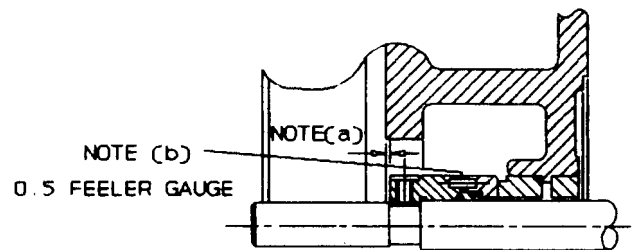

Figure 2
4. Lightly lubricate Rotary Seal Face (41) and Seal Seat (40) with a compatible good quality lubricant.
5. Apply a medium strength thread locking adhesive to the Seal Grub Screws (43) and position in Seal Sleeve (42).
6. Push Seal sub-assembly (41,42) onto Motor Shaft until positive location is felt. Lock Grub Screws (43) tightly onto Motor Shaft checking that axial position has been maintained. Refer Fig. 2
Refer Fig.2.